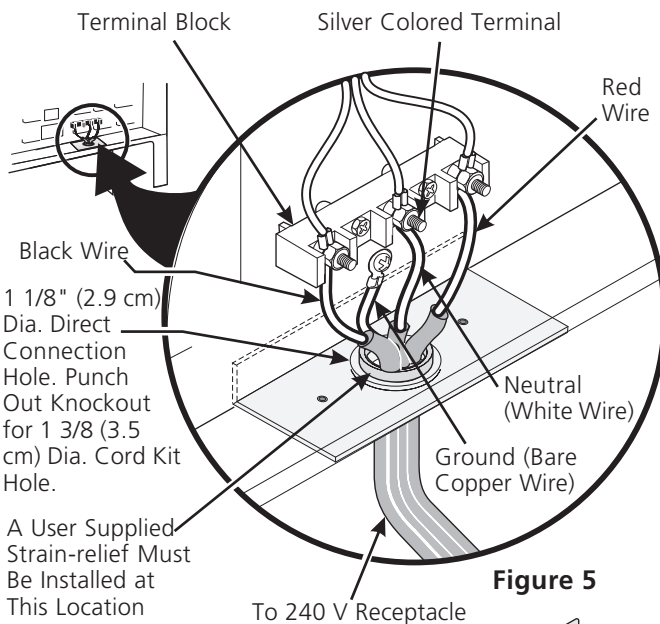

**Figure 4**
**NOTE:** Electric Slide-in Range is shipped from factory with 1 1/8" (2.9 cm) dia. hole as shown on figure 4. If a larger hole is required, punch out the knockout.
If local codes permit connection of the frame grounding conductor to the neutral wire of the copper power supply cord (see Figure 4):
4. Replace the 3 nuts on the terminal block (see figure 4).